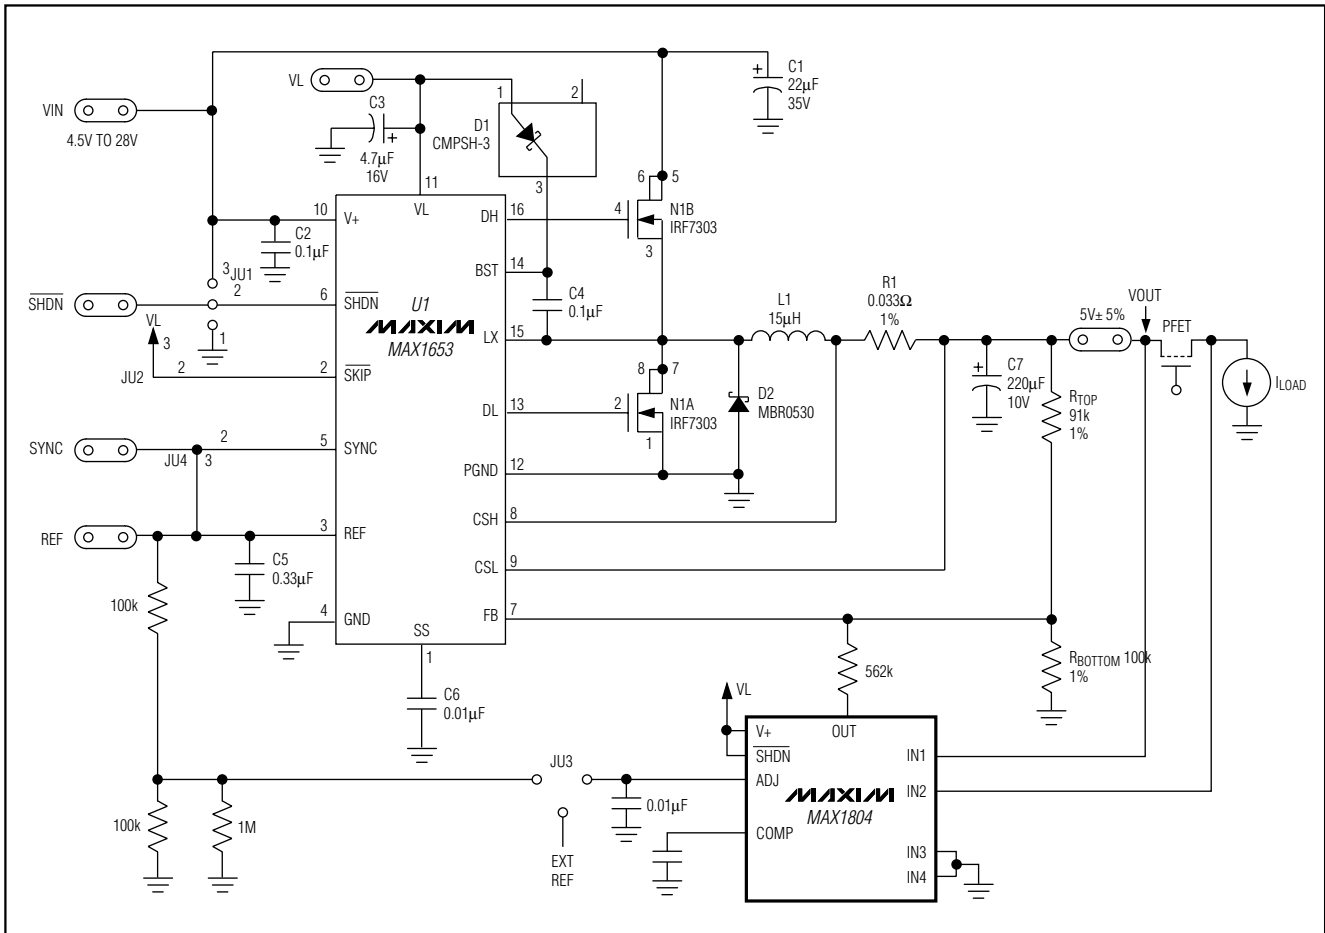

Figure 2. Application Circuit with Step-Down Regulator
**NOTE:** Application Circuit of Figure 2.
(APPLICATION CIRCUIT OF FIGURE 2)**
**NOTE:** Circuit of Figure 2.
Figure 2 is an example of an application circuit using the MAX1804 for point-of-load regulation when using a step-down controller (MAX1653). Use the following design procedure to optimize the basic schematic. Begin the design by establishing the following:
Divide the reference voltage down and bypass as required if using the MAX1653 reference voltage as shown in Figure 2. Assuming 0.1% resistor accuracy and using the MAX1653 reference, the error budget can be calculated as: